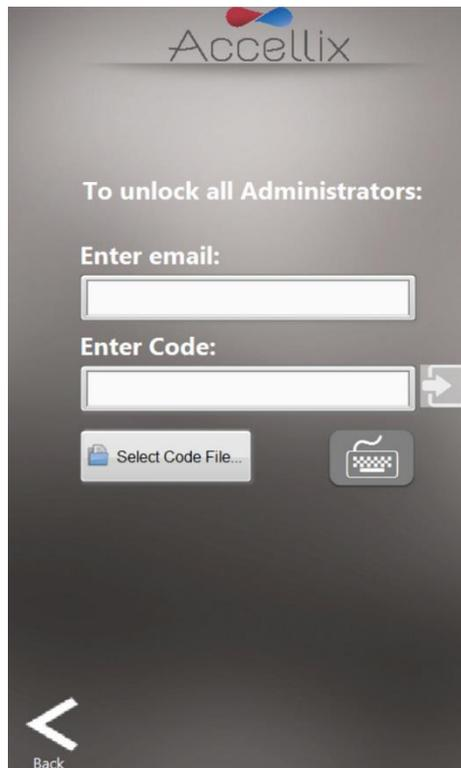

Figure 55: Reset Admin Passwords screen
Pressing this button will display the screen shown in Figure 55:
To unlock all Administrators, email [support@accellix.com](mailto:support@accellix.com) to request a code. Enter the same email address used to contact Support and type in the unlock code in the **Enter Code** field (Figure 55).
**Note:** Accellix will also send a file containing the code which can alternatively be used instead of typing the code in manually. To use the code file, click on **Select Code File** icon (Figure 55) to select the file.